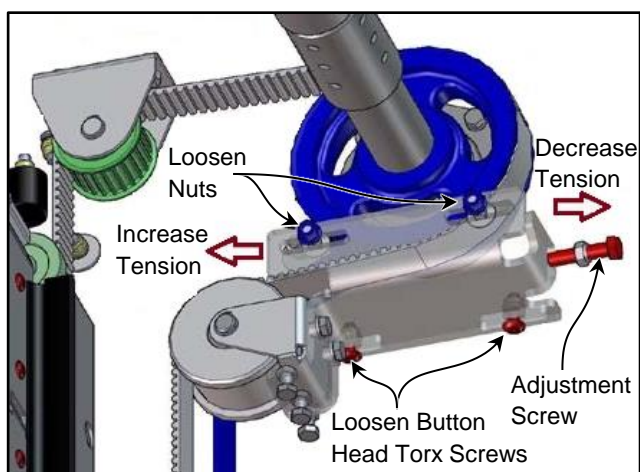
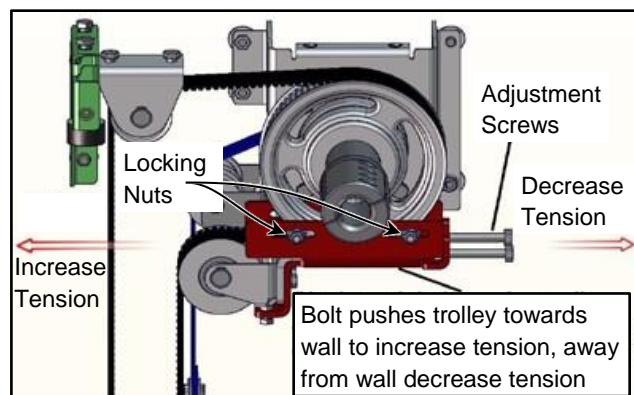
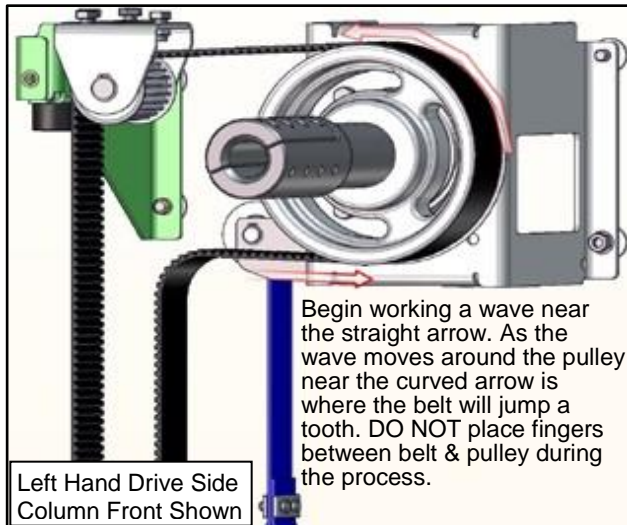

Figure 54
Figure 55
Figure 58
7. The trolley is secured with (2) Button Head Torx screws on the bottom and (2) nuts on the side of the console. A bolt pushes the trolley towards the wall. The face of the console can be removed to provide greater access to the trolley. (See Figure 54)
4. Belt tension should just be snug. It is adjusted by repositioning the trolley at the top of the side column in S – Size doors. The trolley at the top of the side column increases tension as the trolley is moved towards the wall and decreases the tension when moved away from the wall. The face of the console can be removed to provide greater access to trolley. (See Figure 55)
- Performing the panel adjustment is similar for the L & S size doors. To see the difference in trolleys see Figure 54 (L-size) page 23 and Figure 55 (S-size) page 23. On the side that is high, release the tension by adjusting the trolley at the top of the side column. (See Figure 58)